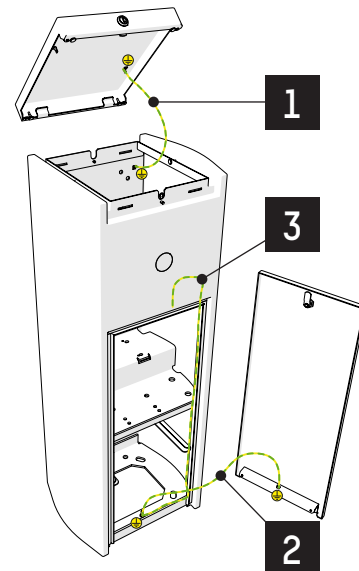

Fig. 23 - Jordanslutningar
- Check the various connections of the equipotential bonding connections shown in Fig. 23 ;